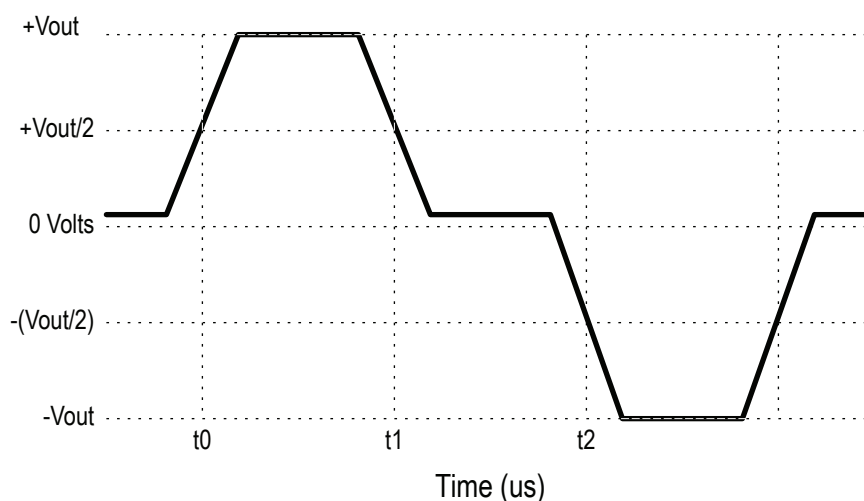

Figure 42 Bottom Threshold
Figure 42 illustrates the effects of choosing $-(+V_{out}/2)$ as the bottom crossing threshold. The reference waveform is redrawn with exaggerated baseline wander. Note that the choice of $-(+V_{out}/2)$ as the bottom threshold results in worse duty cycle distortion value than if $-V_{out}/2$ were chosen as the negative threshold.
- 2 Ensure that the DUT is sending the MLT-3 encoded 01010101 NRZ bit sequence as shown in Figure 42.
Figure 42 illustrates the effects of choosing $-(+V_{out})/2$ as the bottom crossing threshold. The reference waveform is redrawn with exaggerated baseline wander. Note that the choice of $-(+V_{out})/2$ as the bottom threshold causes a worst peak-to-peak duty cycle distortion value than if $-V_{out}/2$ were chosen as the negative threshold.
As indicated in Figure 42, the 4 successive 50% crossing times are measured. These are named t_0 , t_1 , t_2 , and t_3 respectively. The specification states that the deviations of the 50% crossing times from a best fit grid of 16 ns shall not exceed ± 250 ps. We validate this specification in terms of the peak-to-peak duty cycle distortion requirement of 500 ps. This is done as follows: